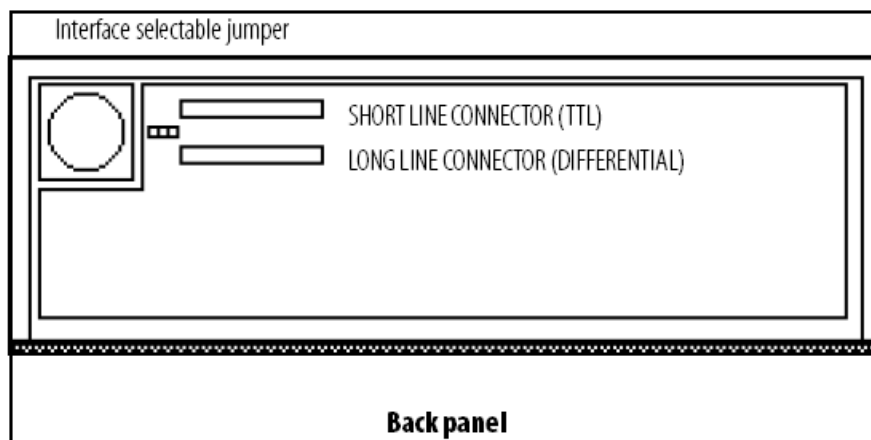

Figure 3-2. Main board interface connections
4. Locate the jumper to the left of the ports. Move the jumper to the desired position as shown in Figure 3-2, matching it to the cable position selection- S or L (Shortline or Longline).